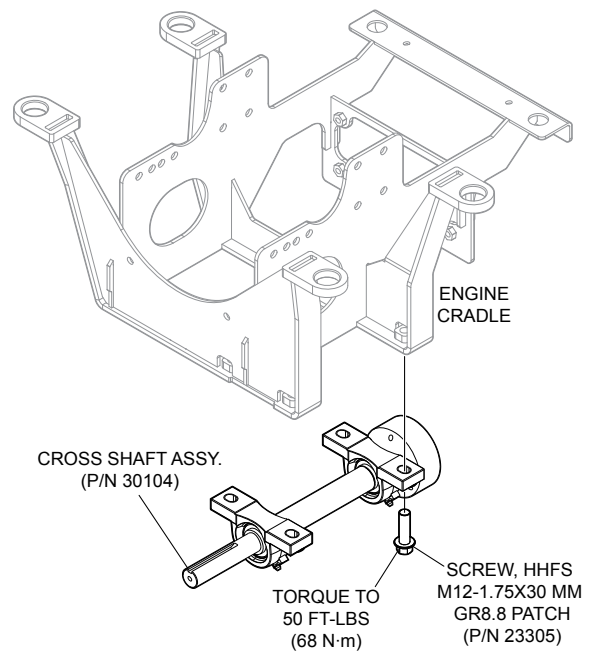

Figure 11. Cross Shaft Installation
4. Use a 16mm socket to install **new** cross shaft assembly (Figure 11), P/N 30104, with existing screws (4), onto engine cradle. Apply Blue Loctite (P/N 1477).
1. Remount cross shaft (with lower pulley assembly) onto engine cradle. Refer to "Cross Shaft Mounting" Section and Figure 11.